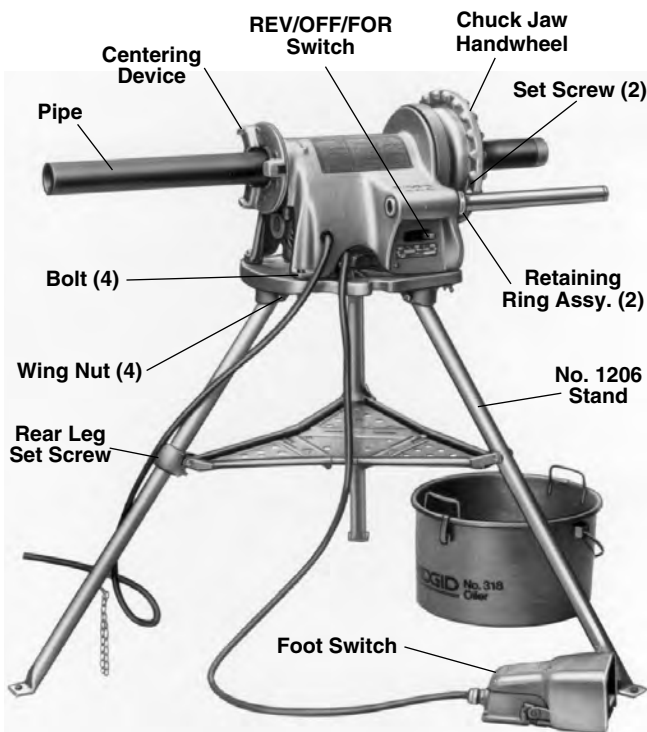

Figure 3 – 300 Power Drive Mounted on No. 1206 Stand with 418 Oiler
- Locate the set screw on the tray leg support on the rear leg (Figure 3).
2. Mount power drive on the stand using bolts and wing nuts (*Figure 3*).
1. Make sure Power Drive is unplugged and the directional switch is set to the OFF position (*Figure 3*).
4. Make sure the foot switch is present and attached to the Power Drive (*Figure 3*).
- 4.. If the workpiece extends more than four (4) feet beyond the Power Drive, use one or more pipe stands to prevent tipping and the oscillation of the pipe.
5. If the workpiece extends beyond the Power Drive, set-up guards or barricades to create a minimum of three (3) feet of clearance around the Power Drive and workpiece. This "safety zone" prevents others from accidentally contacting the machine or workpiece and either causing the equipment to tip or becoming entangled in the rotating parts.
6. If necessary, fill the 418 Oiler with RIDGID Thread Cutting Oil. Position the oiler under the front of the Power Drive (*Figure 3*).